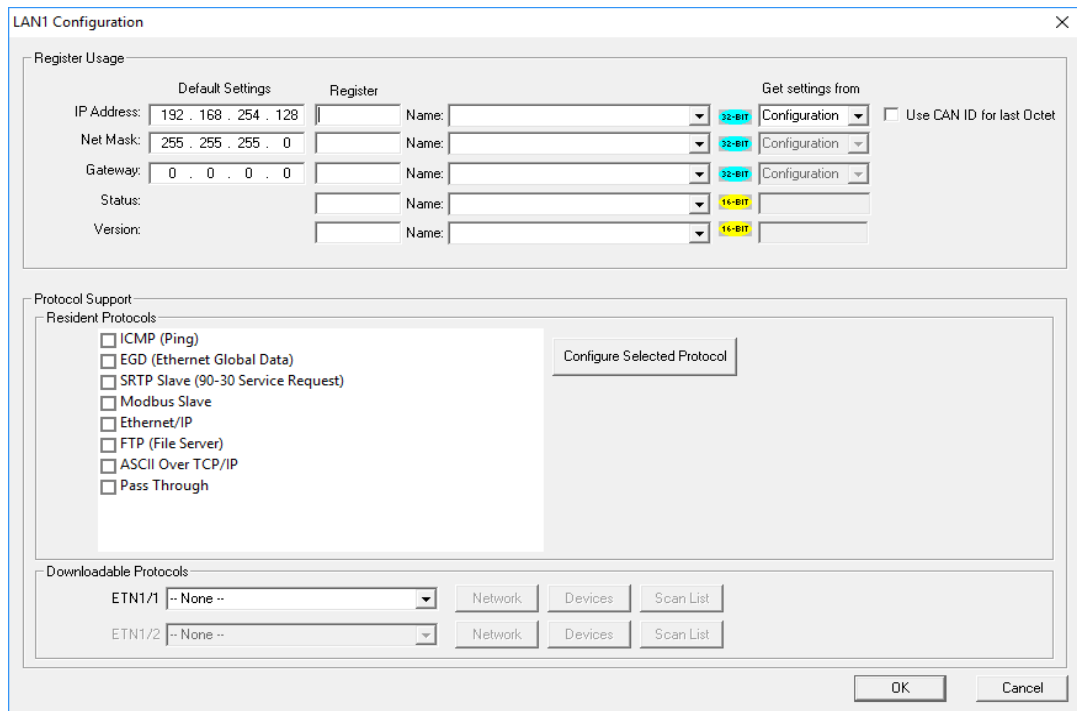

Figure 8.2 – Ethernet Module Configuration
3. Click the **Config** button to the right of LAN1, revealing the Ethernet Module Configuration dialog as shown in figure 8.2